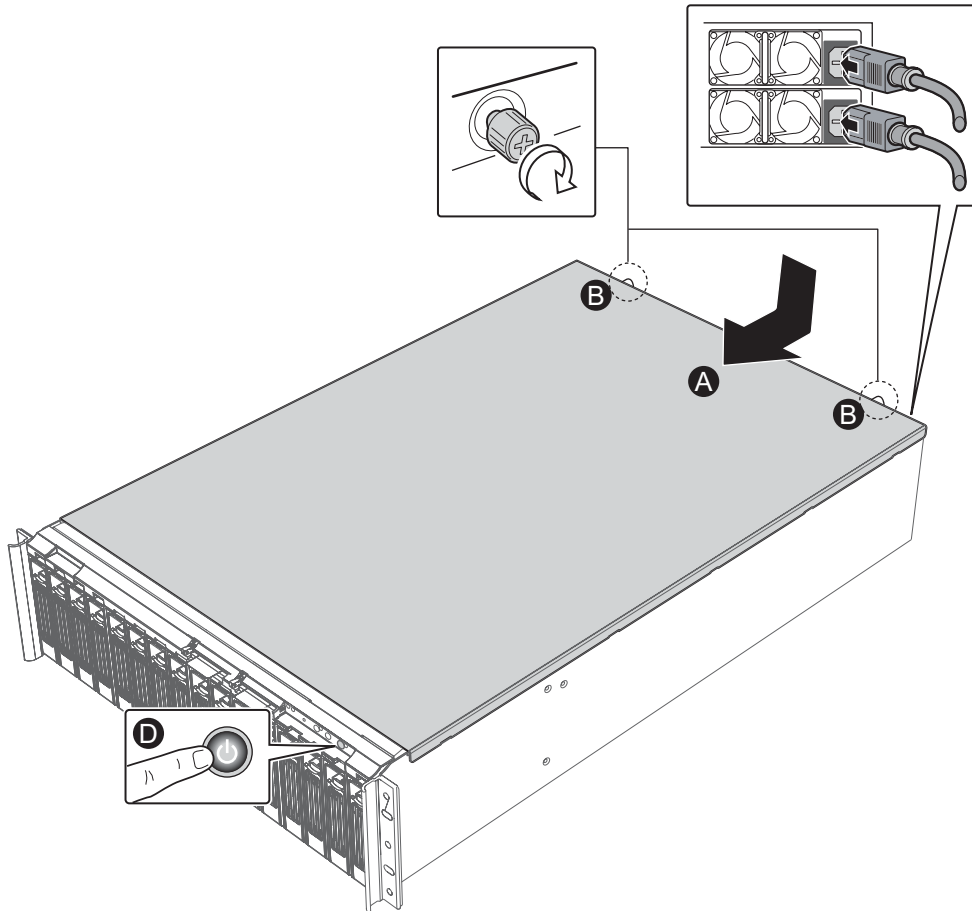

Figure 28. Re-attaching the Chassis Cover
- A. Facing the front of the system, insert the chassis cover into its slot. Push the top cover forward until it reaches the front of the system. See Figure 28.
- B. Tighten the two thumb screws on the back of the chassis cover. See Figure 28.
- C. Re-attach the AC power cables. See Figure 28.
- D. You can now power on the Intel® Storage System SSR316MJ2. See Figure 28.